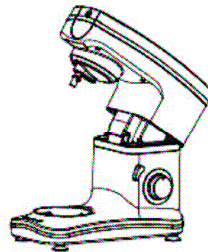

Fig.3
2. Turn the lock switch to lift the mixer head up until it clicks and locks in the elevated position. (Fig.3)